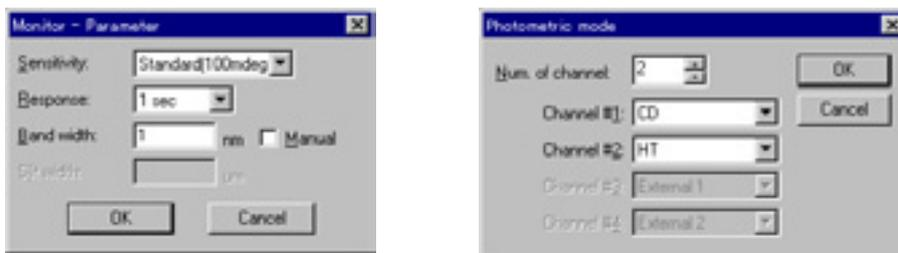

Fig. 4.2 Setting parameters (replacement of light source)
- (5) Tighten the cathode fixing screw (for the 450W light source)
- (6) Mount the anode holder (for the 450W light source).
- (7) Start up the instrument.
- (8) Start up the [Data Monitor] program.
- (9) Select the [Parameter...] and [Data Mode...] commands from the [Setting] menu and designate the monitoring parameters shown in Fig. 4-2.